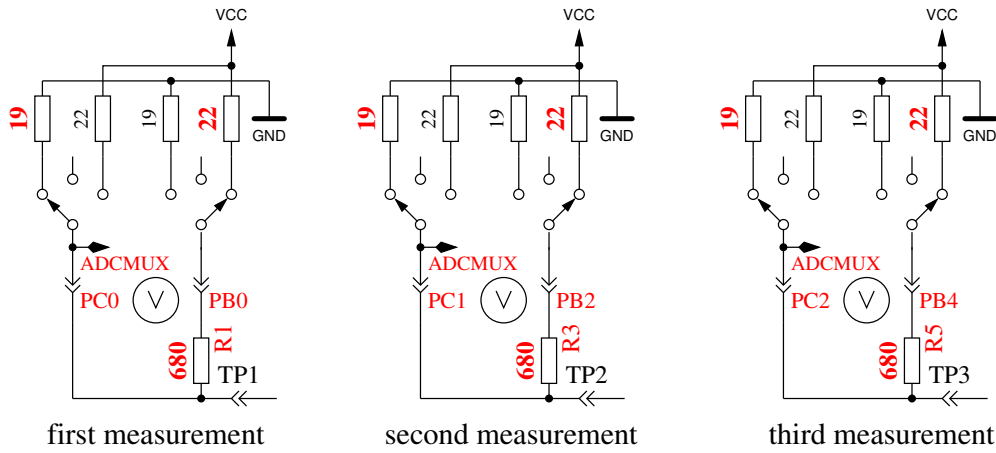

Figure 5.57. Measurement of internal resistance of Port C switched to GND
5. **This step tests the capability of GND (-) connected 470kΩ resistors (H) to pull the test pins to GND.** Row 1 shows the text “RH-”. Row 2 should display zero for all three pins.
6. **This step tests the capability of VCC (+) connected 470kΩ resistors (H) to pull the test pins to VCC (+).** Row 1 shows the text “RH+”. The results are shown als difference to VCC and should be near zero. Great differences from the best value for test 5 and 6 are errors such as isolation problem, flux material or damaged port.
8. **Measuring of internal resistance of pin output switched to the GND signal.** This test and the follwing tests will only be done, if the option AUTO_CAL is selected. The internal resistance of the port C outputs switched to GND (-) are measured with the current of to VCC (+) switched 680Ω resistors, see Figure 5.57. Only the three pins of the ADC port are measured, the resistor port B (PB0,PB2 and PB4) can not be measured without hardware modification. Is is assumed that the port resistance of the different ports are nearly identical. The resistor value will be shown in the next test.